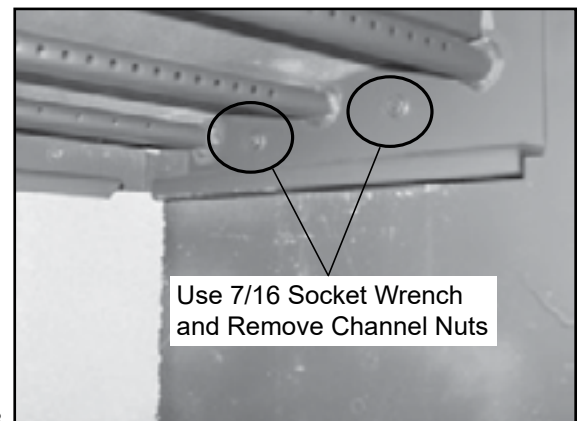

Figure 26.3
4. Slide the tube channel assembly all the way to left until it is off the threads. Drop the right side down, then slide the assembly back to right (**Figure 26.3**).